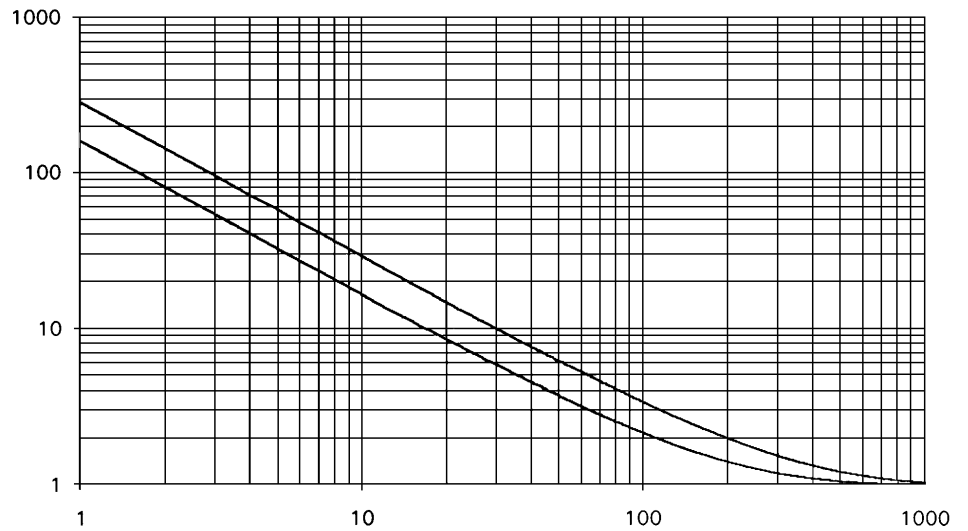

Figure 5-4 Typical Braking Resistor Overload Curve
Figure 5-4 shows the overload capability of the various resistors supplied as part of the dynamic braking resistor kits.
- ❑ As shown in Figure 5-4 on page 83, the instantaneous power of the resistors is 60 times (6000 W) the rated power for 5 seconds.